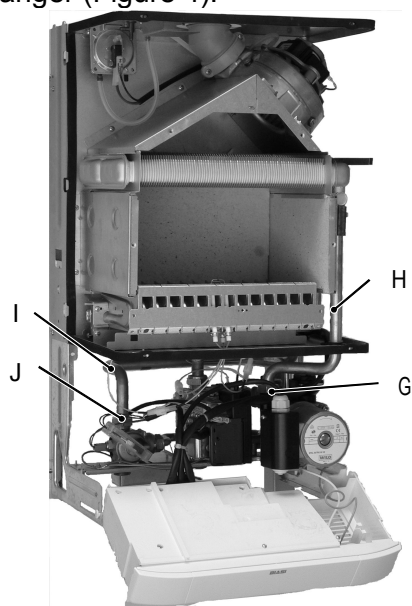

Figure 4
- 7) Loosen the connection G, rotate to the left and then move downwards the pipe H freeing it from the connection of the primary heat exchanger (Figure 4).
- 8) Completely unscrew the connection J and rotate the pipe I downwards freeing it from the heat exchanger connection (Figure 4)